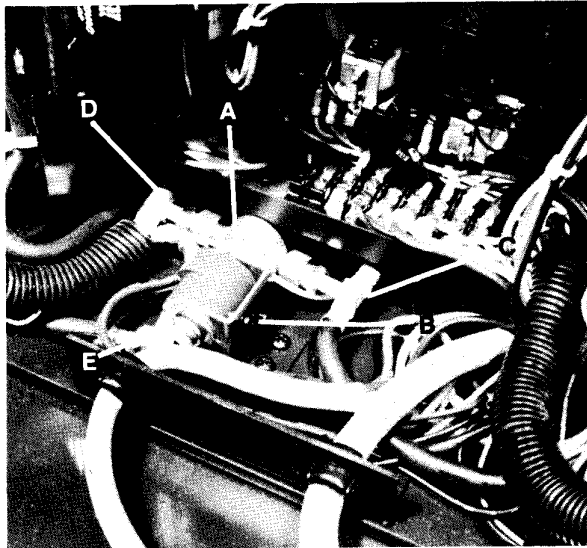

Fig. 38
The base anticavitation solenoid valve, Item A, Fig. 38 will prevent the base cylinders from extending when the cylinder solenoids are unenergized.
- 2) Remove the (2) hose fittings from the valve with a ½" wrench.
- 3) Remove the anticavitation solenoid valve from the mounting bracket by removing (2) screws, Item B, Fig. 38.
- 4) Place new anticavitation solenoid valve in position, align holes, and install (2) #8-32x¾" screws, Item B, Fig. 38.
- 5) Install the (2) hose fittings on the new valve using a ½" wrench.